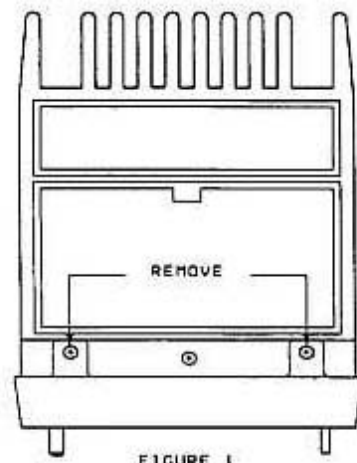

FIGURE 1
4. Remove the two brass colored screws from the top of the plastic front panel. Figure 1.
3. Remove the shield plate from the VHF Final unit (4 screws). Figure 1.